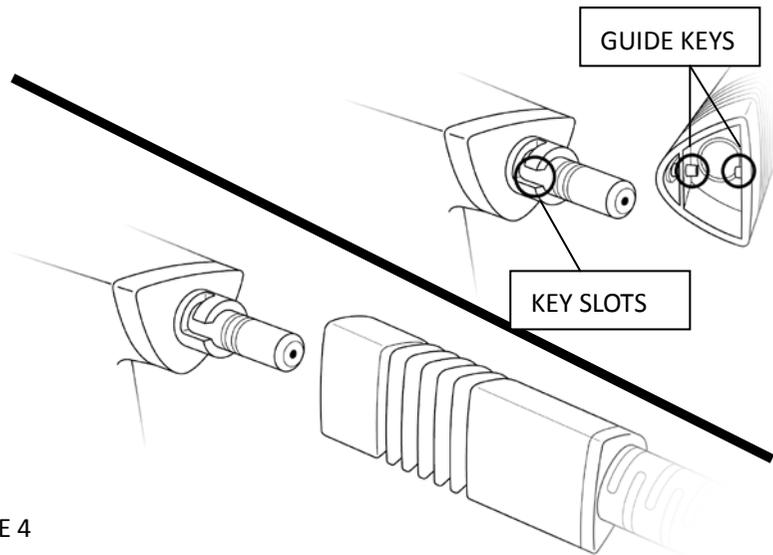

FIGURE 4
1. Align female end of Extension Hose with Steam Nozzle (FIGURE 4). Guide key on Extension Hose should line up with key slot on base of Steam Nozzle.
2. Slide Extension Hose onto Steam Nozzle, being sure to push it on as far as it will go. Rotate Extension Hose clockwise, turning it until you feel it “lock” into place and it will move no further (FIGURE 4)